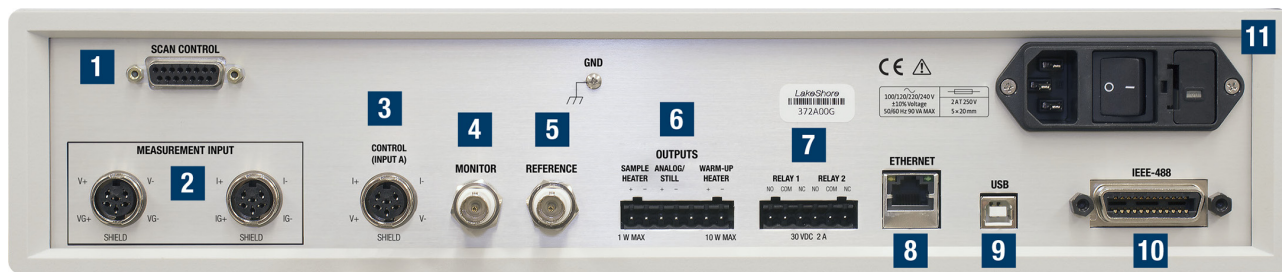

FIGURE 3-1 Model 372 rear panel
This section provides a description of the Model 372 rear panel connections. The rear panel consists of the measurement input connectors (#2 in FIGURE 3-1), scanner control connector (1), control input connector (3), diagnostic monitor output connector (4), reference output connector (5), sample heater, warm-up heater and analog output terminal block connector (6), relays 1 and 2 terminal block connector (7), RJ-45 Ethernet connector (8), USB B-type connector (9), IEEE-488 interface connector (10), and the line input assembly (11). Refer to section 8.10 for rear panel connector pin-out details.